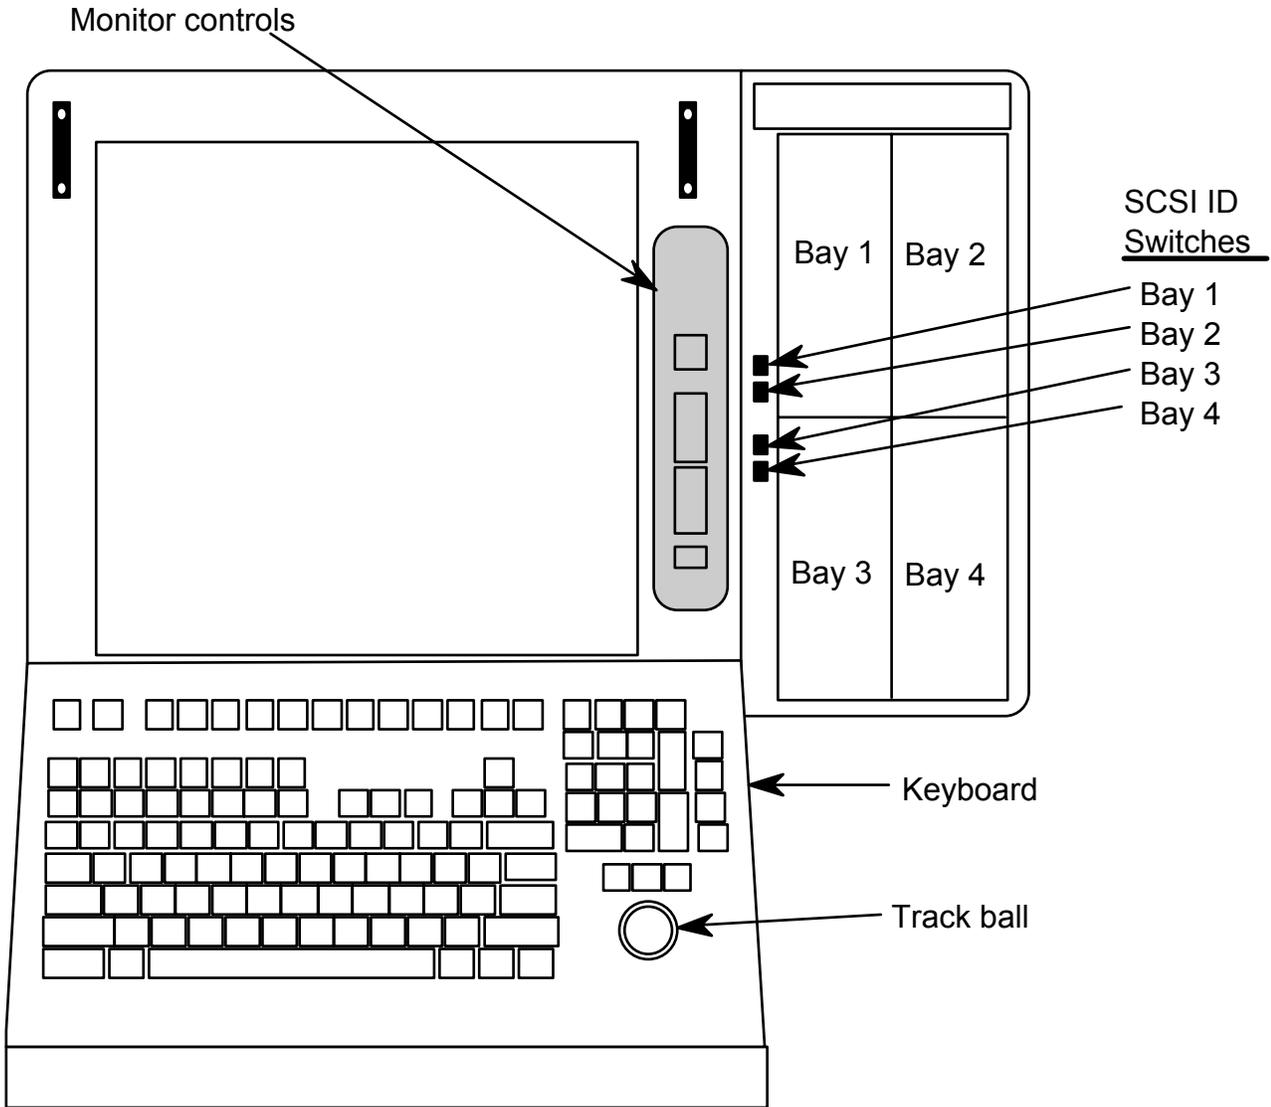
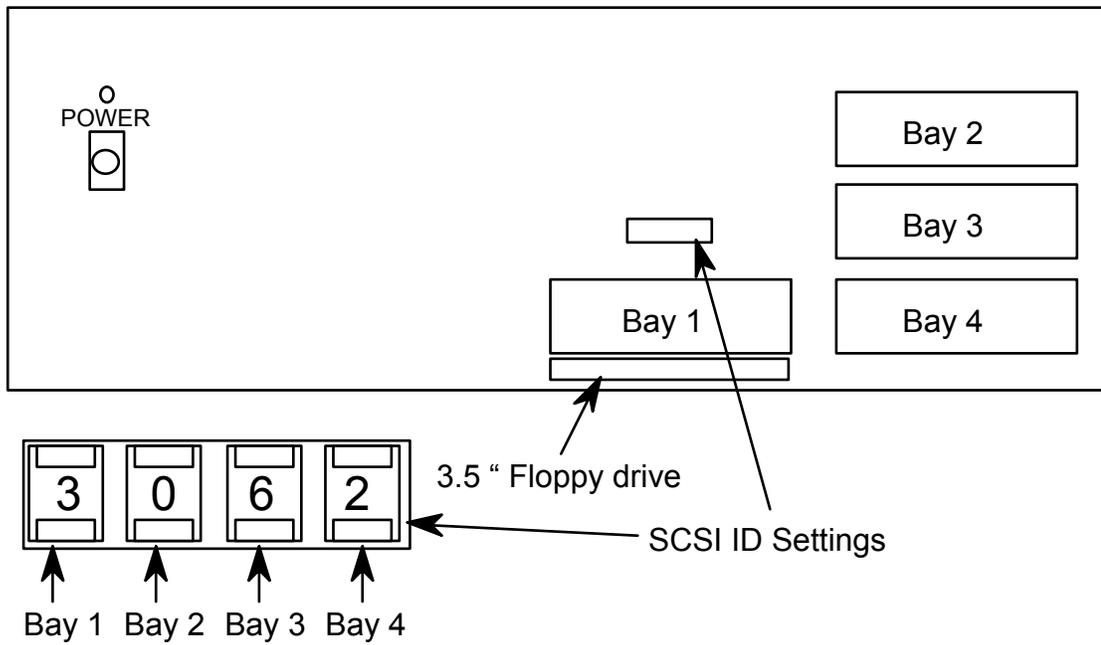

Figure 1.5 CCU-2 Front View
Figure 1.6 UCU Front View
SCSI ID settings must be made to match the SCSI address of a device bay to the SCSI ID of the device in that bay. Illustrations show the locations for the SCSI switches for the UCU (Figure 1.6) and CCU 2 (Figure 1.5). Each switch has a set button at the top and bottom to increment the setting either up or down, respectively. An empty bay is set to zero (0), even if the bay is used without a HDD.